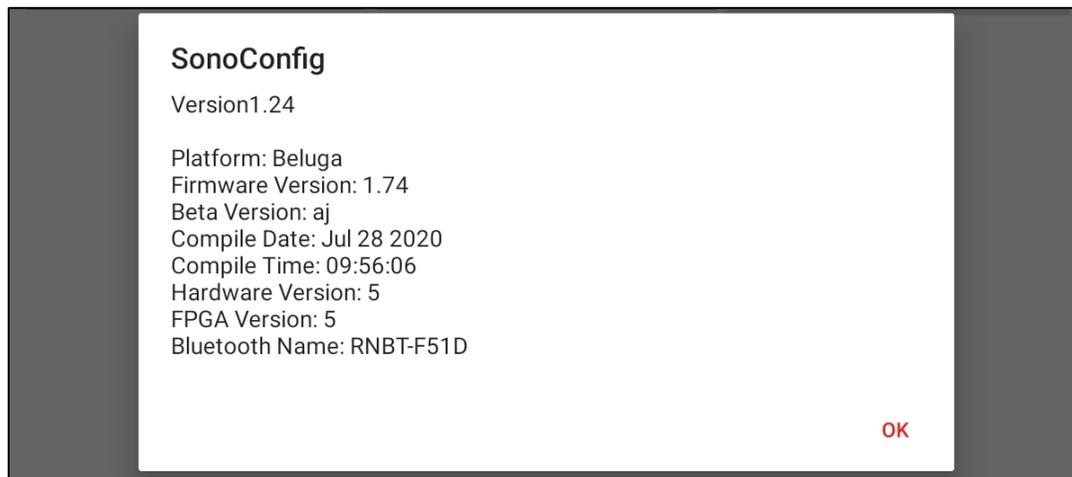

Figure 4: About Dialog
- While connected to the SonoPro through the USB cable, click the ABOUT button on the action bar. A dialog like the one in Figure 4 will be displayed. If a Bluetooth radio is present in the SonoPro, the “Bluetooth Name” will be displayed in this dialog.